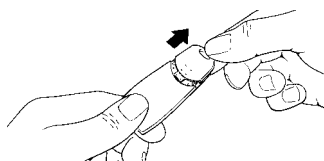

Fig. 15
- 1 Open the bottom by pulling it as shown in Figure 15.